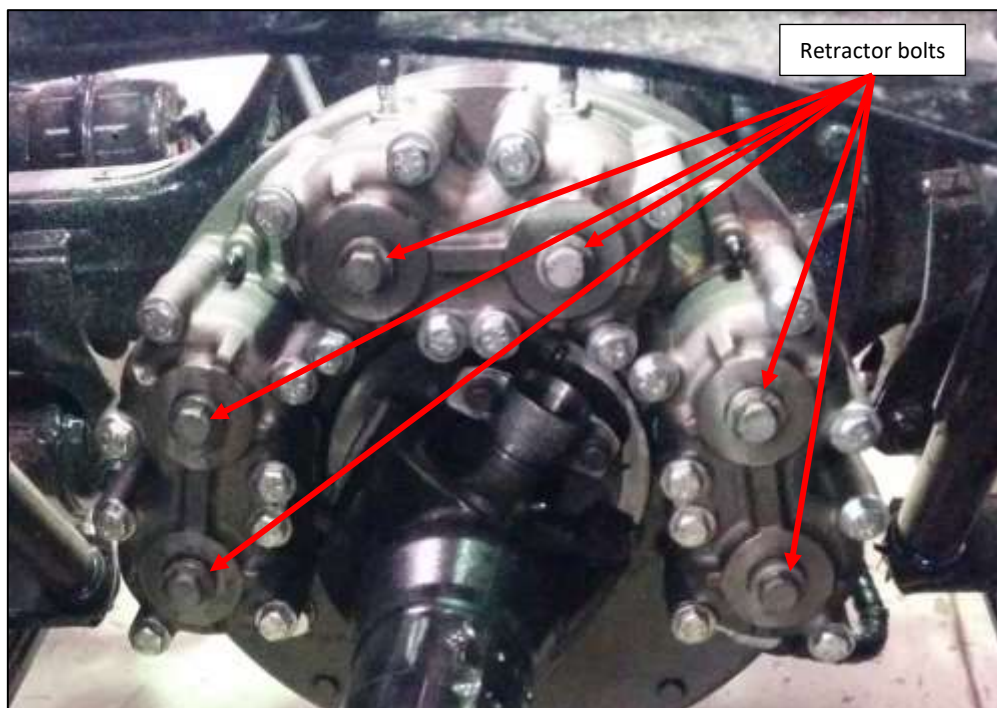

Fig 4: Failsafe Emergency brake piston retractor bolts (HV19 shown).
6. Remove and keep the retractor bolts (6x on HV19 or 4x on LV21 and MV16) with hardened washers from the pistons (see Fig 4).